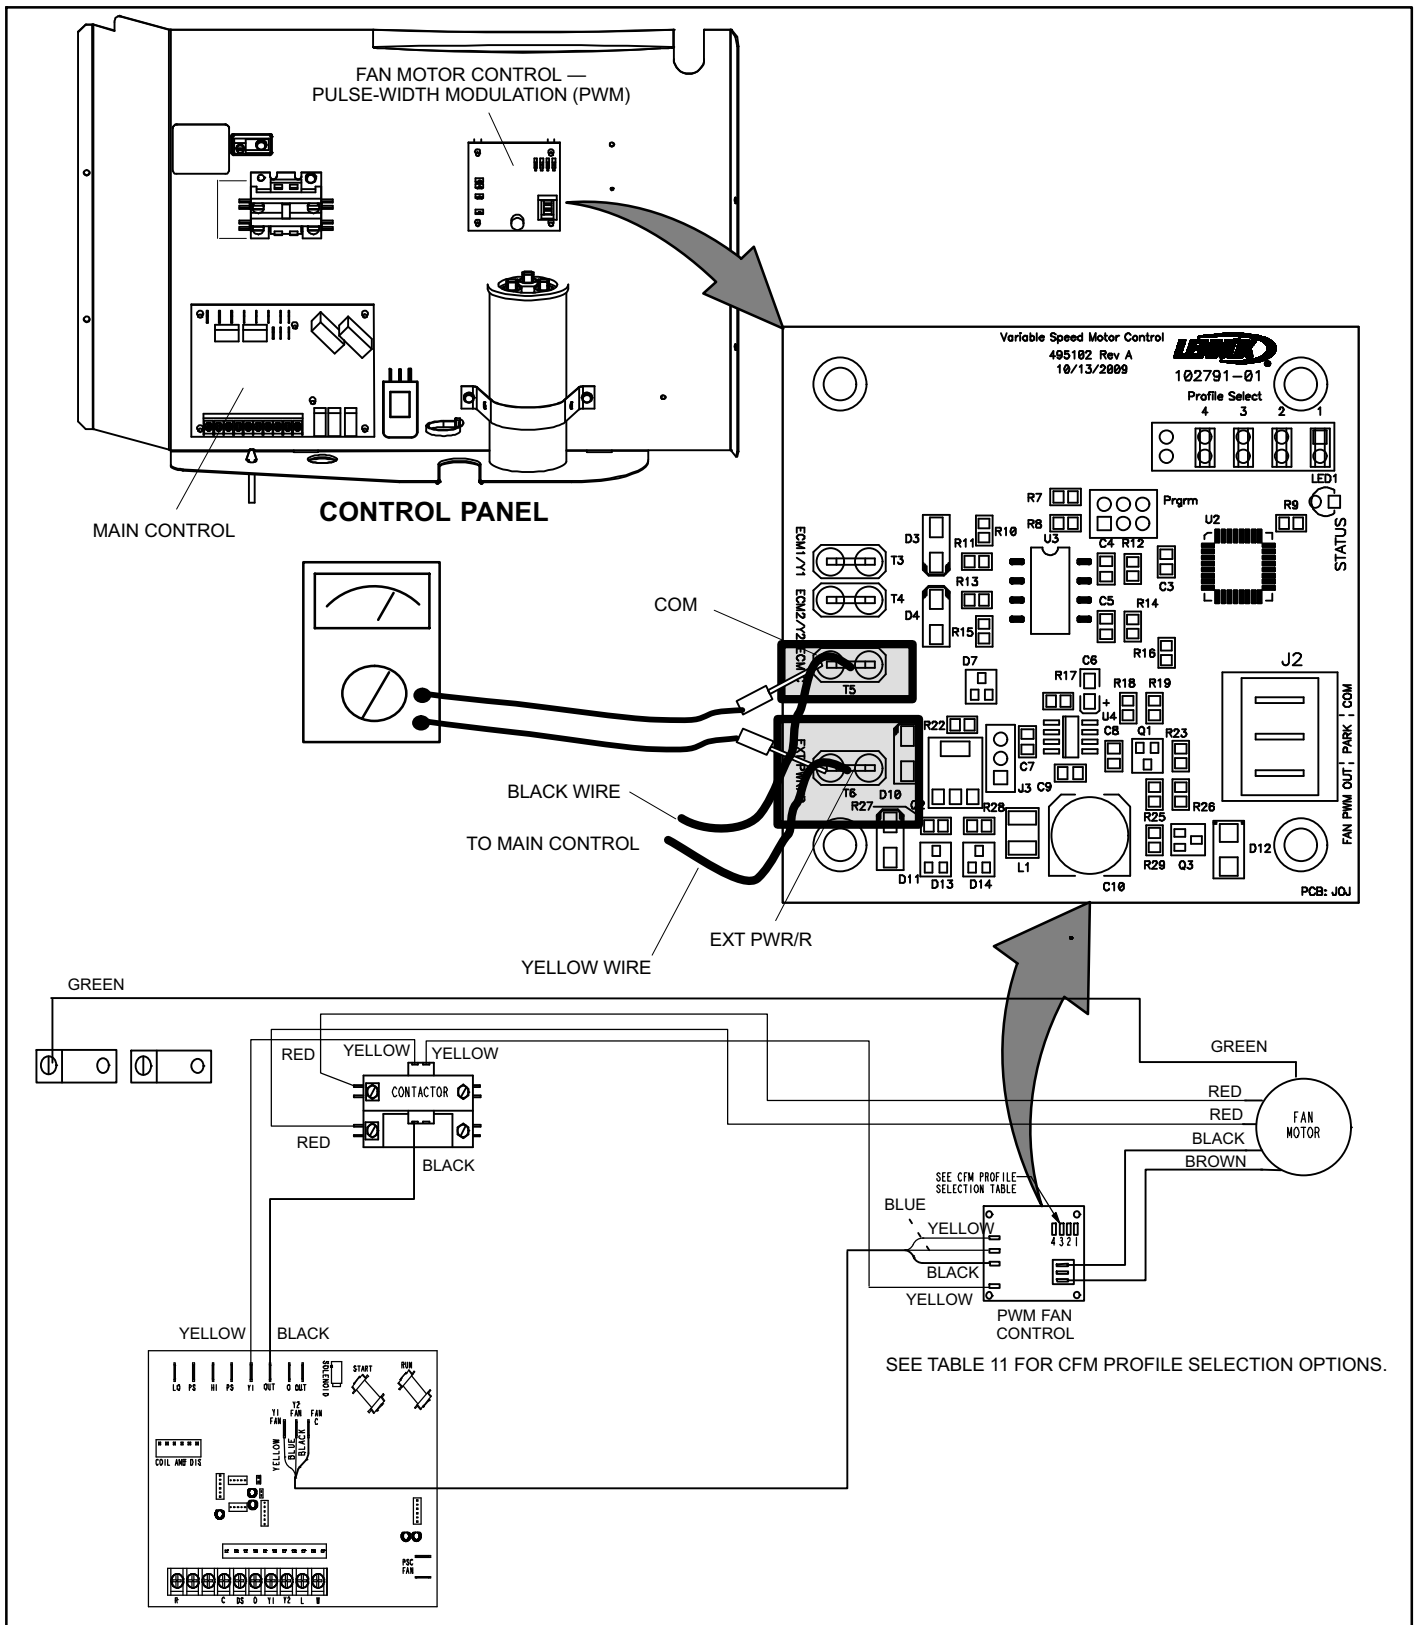

Figure 24. Testing for External Power to Fan Control
4. If no voltage is detected at the J2 terminals, verify there is a Y1 demand at the thermostat and 24V present at the Fan Control's EXT PWR/R terminal during that Y1 demand (see Figure 24).